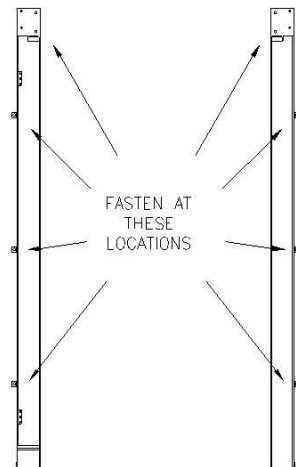

FIG. 2C
- **Fasten Uprights to mounting surface** using holes in flange of projection leg.(Fig. 2c)